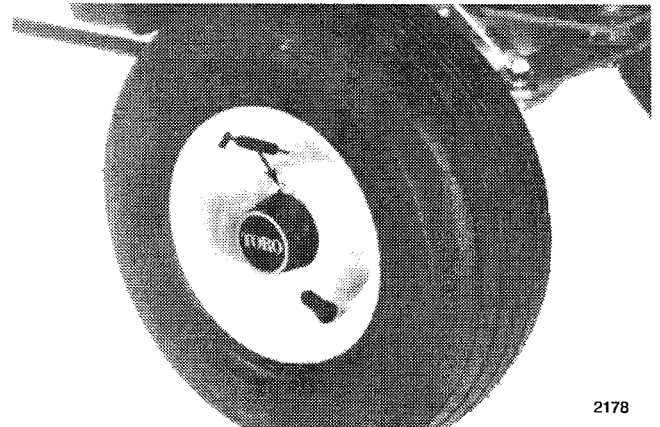

Figure 20
1. Lubricate the wheel bearings (Fig. 20).